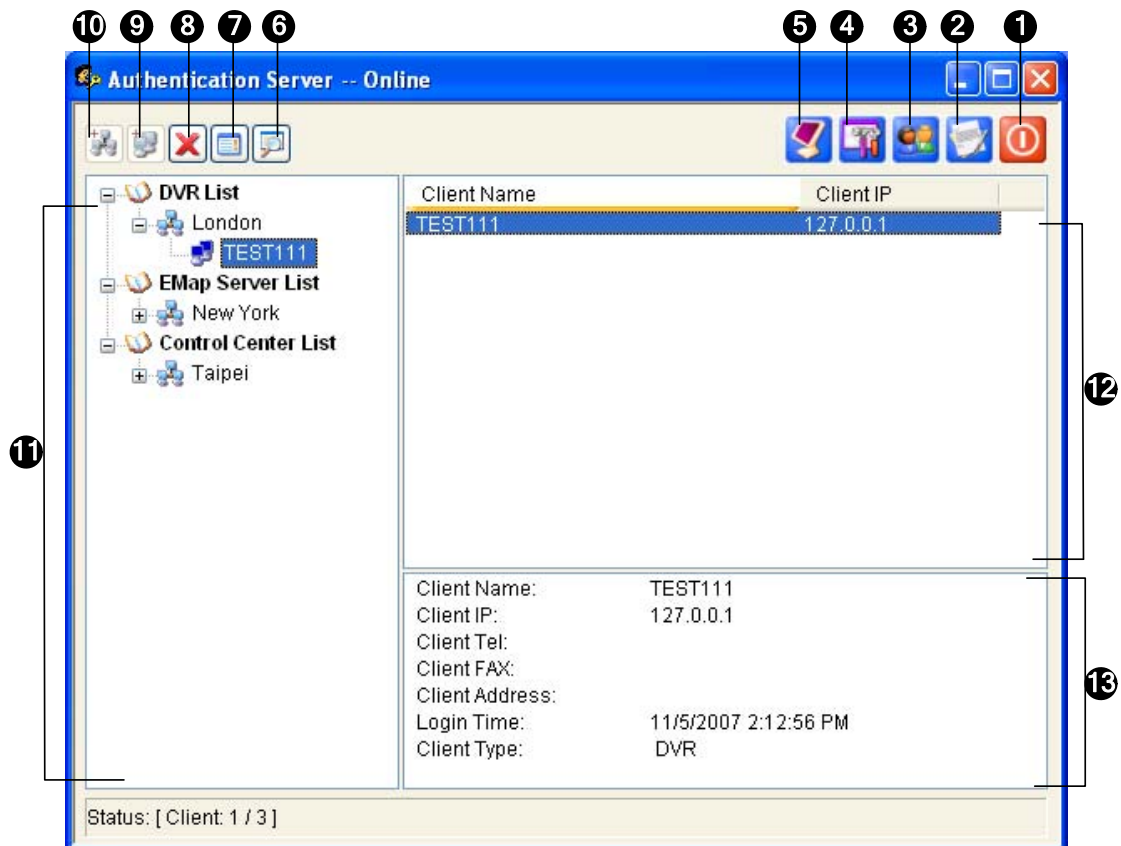

Figure 11-23 The Authentication Server Window
1. To create a group, click the **Add An Area** button (No.10, Figure 11-23).
2. To create a client under the group, click the **Add A Client** button (No.9, Figure 11-23). This displays the Client Information dialog box.
1. Click the **Password Setup** button (No.3, Figure 11-23) to display the Password Setup window. The window is the same as the Password Setup window in Main System, except the following section.
1. Click the **Server Setup** button (No. 4, Figure 11-23). This dialog box appears.
3. Click the **Start/Stop Service** button (No. 5, Figure 11-23) to start the connection.
In the Authentication Server window (Figure 11-23), right-click **E-Map Server List** or **Control Center List**, and then select **Add A Client**. Type the name and information of this added E-Map Server or Control Center in the Client Information dialog box.